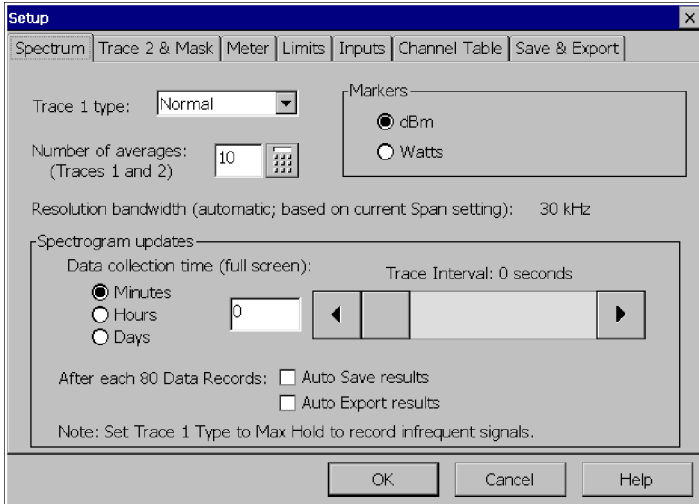

Figure 3-13: Changing Units for Marker Level
1. Tap the Edit button or select **Setup > Edit**. This displays the window shown in Figure 3-13.